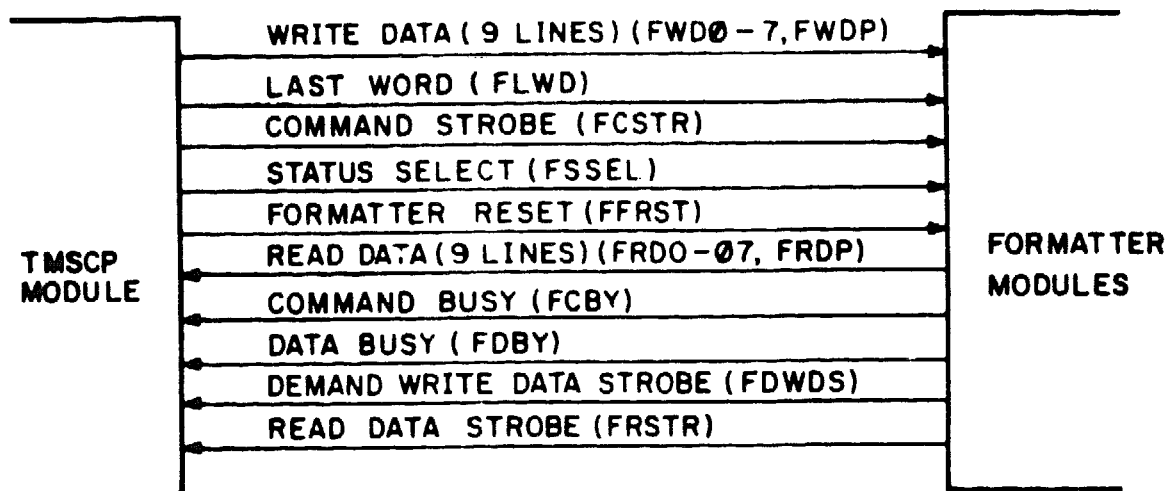

Figure 4-34. TMSCP/FORMATTER INTERFACE
The interface lines between the TMSCP Module and Formatter Modules are shown in Figure 4-34. The function and mnemonic of each signal line or set of lines are given below. The first letter (F) of the mnemonic denotes a Formatter signal.